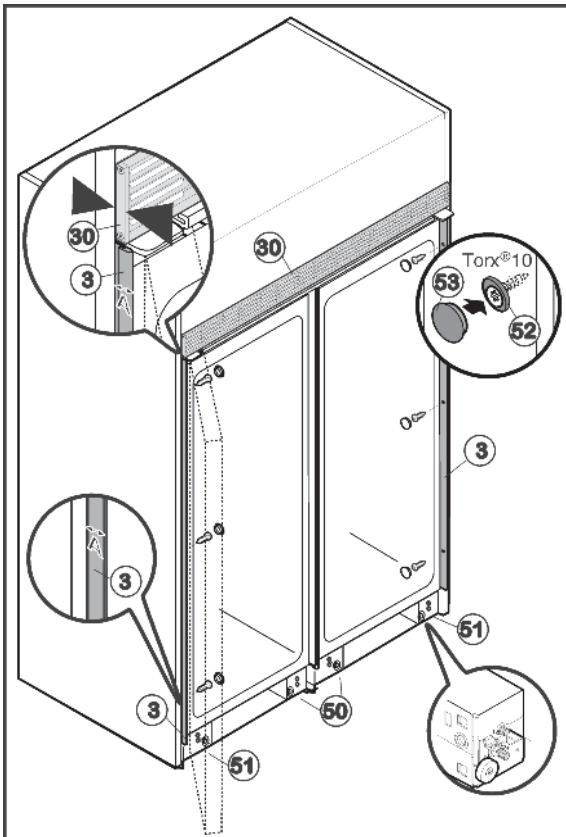

Fig. 50
- ▶ Push the appliance into the recess until the rear edge of the ventilation grille Fig. 50 (30) is flush with the front edge of the side wall of the cabinet.
- ▶ Completely screw in the two centre roller bases Fig. 50 (50) at the front and rear such that the appliance is only resting on the outer roller bases. This enables the two appliances connected to each other to be aligned jointly like a single appliance.
- ▶ Align appliance inside the recess by adjusting the outer roller bases Fig. 50 (51) and using a spirit level.
- ▶ At the top and bottom of the recess check the gap **A** between the front edge of the installation strip Fig. 50 (3) and the front edge of the side wall of the unit. It must be 1/2" (13 mm). Realign the appliance in the recess if required.
- ▶ Secure appliance inside the recess using three screws Fig. 50 (52) hinge side of each appliance. Do not scratch the side installation strip Fig. 50 (3) when doing so.
- ▶ Place cover caps Fig. 50 (53) over the screws.
- ▶ Being careful not to affect the level, lower the levelling wheels in the center roller bases Fig. 50 (50) until they are resting on the floor.
- ▶ Fit lower ventilation grille Fig. 50 (54) flush with the floor such that the rubber lip is at the top. It is held in place via magnets.